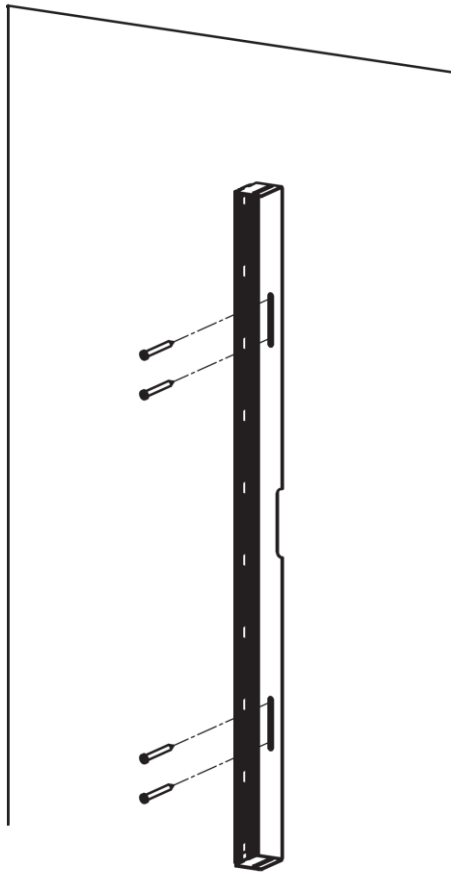

FIGURE 1
3. The LCR DM Brackets have two slots cut through the rear of the part which will function as a surface mount bracket. Refer to **FIGURE 1.**